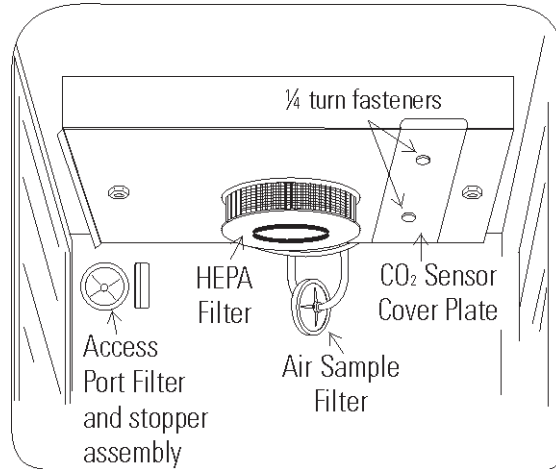

Figure 1-12. Filter and Plate
2. Locate the stopper with filter in the hardware bag. Lift the metal port cover and install the assembly in the opening inside the chamber. See Figure 1-12.
3. Also in the hardware bag is the CO₂ sensor cover plate. Install, using the 1/4-turn fasteners. Refer to Figure 1-12 for the location.